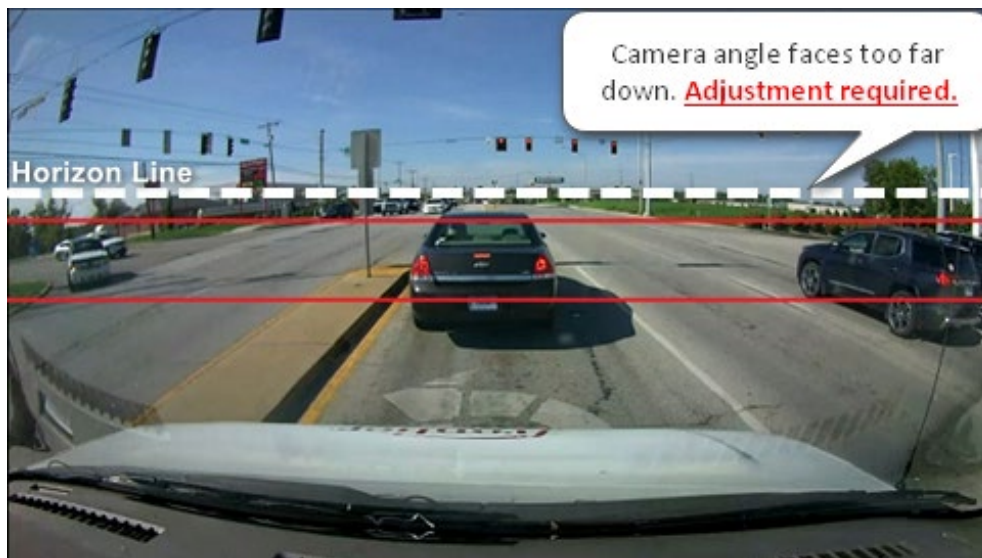

Figure 2
- Provide accurate horizon and hood settings. The horizon setting helps ADAS functions identify the road and has a sizeable impact on event accuracy. For an example of improper camera angle settings in an AP1, review Figure 2 below. The true horizon line (white dashed line) is too far above the red guidelines and may skew performance; it must be within the red guidelines when calibrating the AP1. Hood settings act as a mask to focus on the area of concern within the camera's field of view.